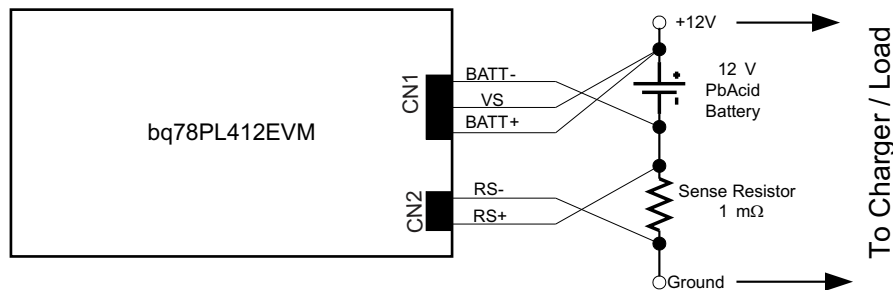

Figure 3. Battery and Sense Resistor Connections (Low Side current sensing)
This section describes the connectors and power up sequence. See Figure 3.
- Construct the battery and sense resistor circuit as shown in Figure 3.